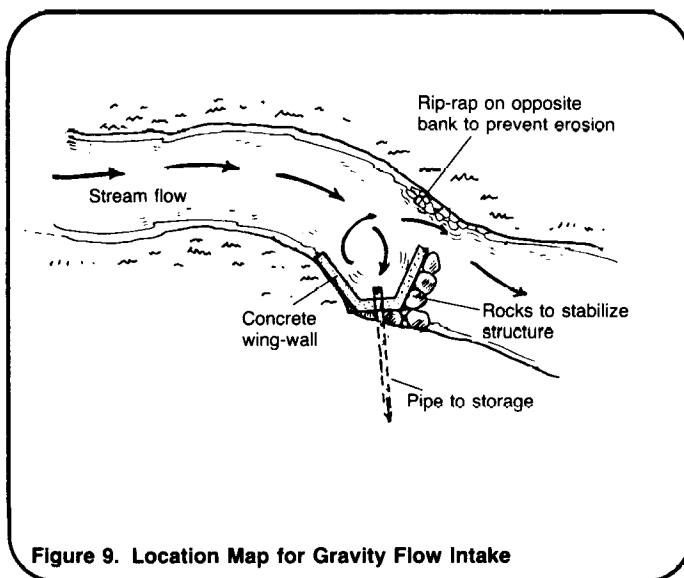

Figure 9. Location Map for Gravity Flow Intake
**Construction.** Move all construction materials to the work site. The winged-wall intake should be built at the site, following exactly the location map and detailed drawings the project designer has given you. See Figures 9 and 10.